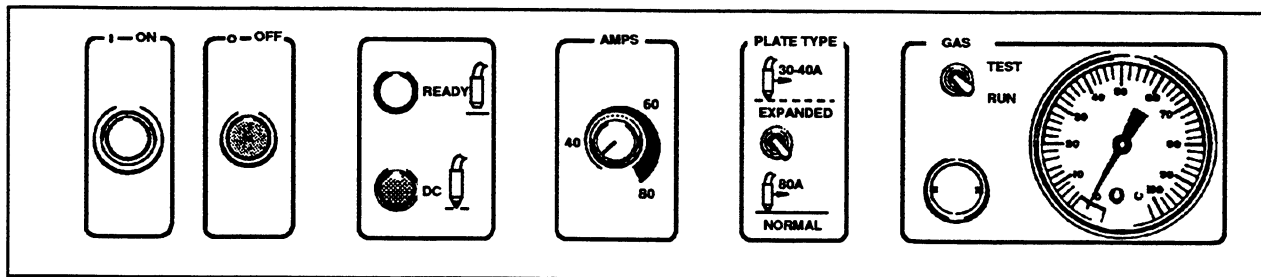

Figure 4-1 Front Panel Controls
12. Attach the work cable clamp to the workpiece (hand torch) or bolt it to the work table (machine torch). Make sure that the work cable clamp and the workpiece or work table make good metal-to-metal contact. Do not attach the work clamp to the portion of the workpiece that will fall away (see Figure 4-1).